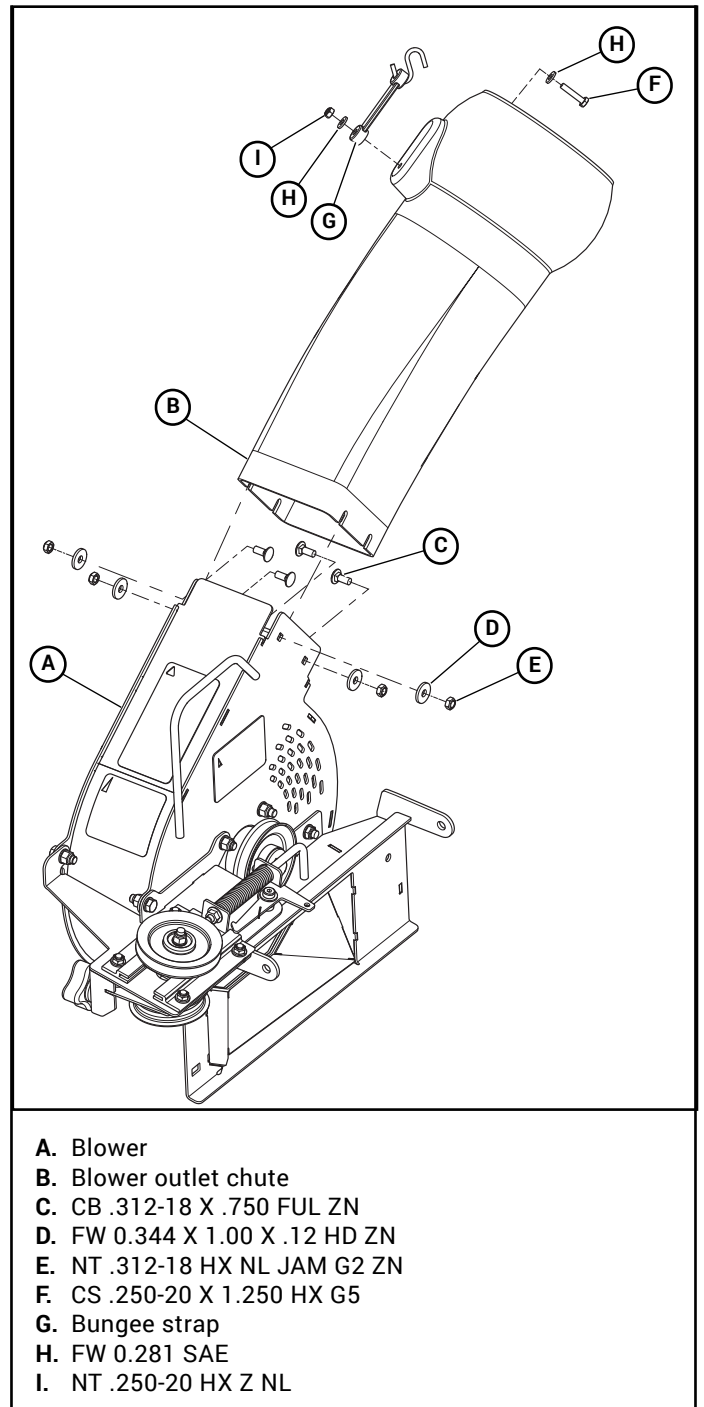

Figure 3-12
17. Attach the blower outlet chute to the blower. Figure 3-12